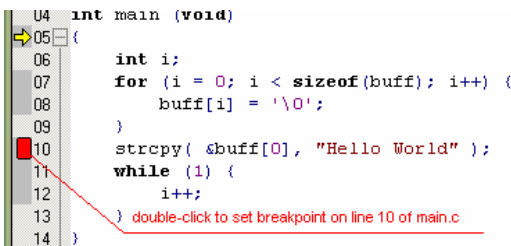

FIGURE 29 The μ Vision3 source window. Setting a breakpoint on line 10 of the main.c module.
- In the main.c window, set a breakpoint on line 10 of the main.c module by positioning mouse cursor in the left margin of the window where mouse cursor changes its shape from vertical bar to cursor and double-click next to line 10. A red rectangle appears, confirming that the breakpoint was set (Figure 29).